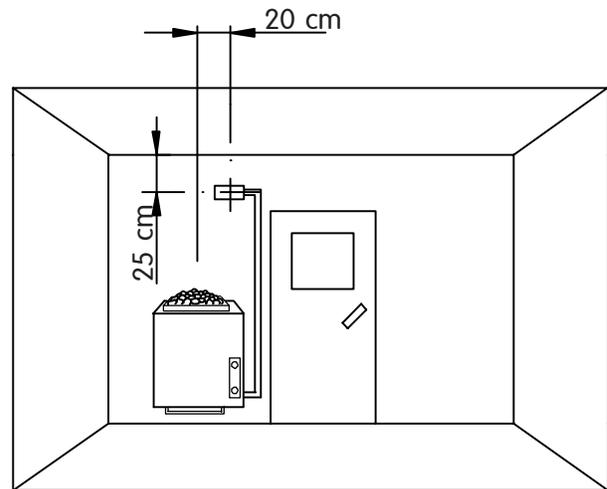

Fig. 7
4. Mount the sauna heating unit to the wall mounting bracket by the mounting slots and insert the spacer (Fig. 7).
The sensor mounting bracket is mounted (using the provided wood screws) to the cabin wall as shown in Fig. 7, centered above the heater exhaust outlet facing the cabin door and positioned 25 cm below the cabin ceiling. The bracket must be placed in this position, as otherwise the desired temperatures cannot be achieved. The capillary tubes can be fastened to the cabin wall with the fastening elements provided. The excess length of capillary tube should be rolled up behind the heater and must not be pushed back into the connection box under any circumstances.